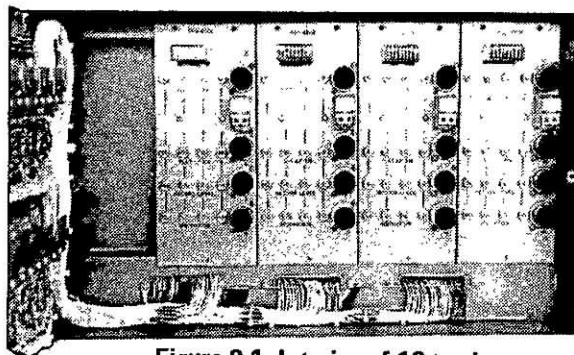

Figure 2-1. Interior of 16-track Sync Panel showing 811D-4000 Modules
Step 5 Undo the latch on the sync panel, and swing the panel open, revealing the 811D-4300 series modules. Refer to figure 2-1.